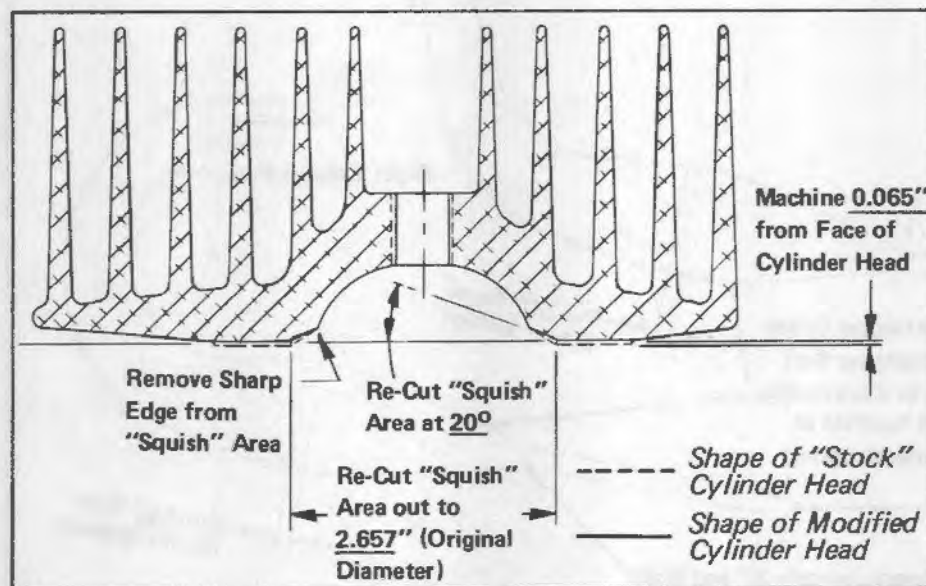

Figure 3. 440 S/T "Super-Modified" Cylinder Head
1. Machine 0.065" (1.65mm) from face of cylinder head. (Figure 3)
2. Re-cut cylinder head "squish" area at 20° and out to original diameter [2.657" (64.49mm)]. (Figure 3)
3. Remove all sharp edges from edge of "squish" area. (Figure 3)